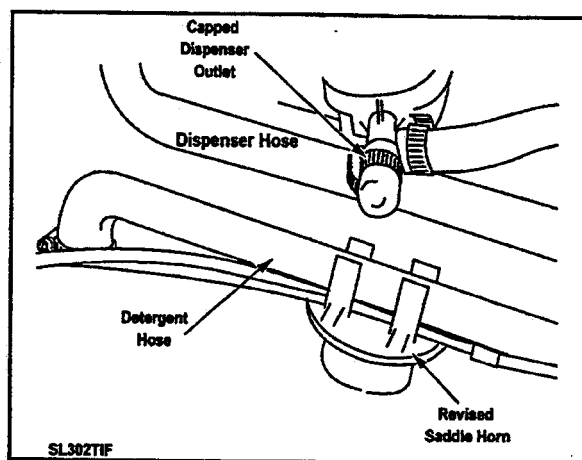

Figure 2-33
6. The detergent hose turns 90 degrees toward the front of the washer and passes through the saddle horn on the top of the outer tub. Unsnap the hose from the saddle horn (See Figure 2-33).